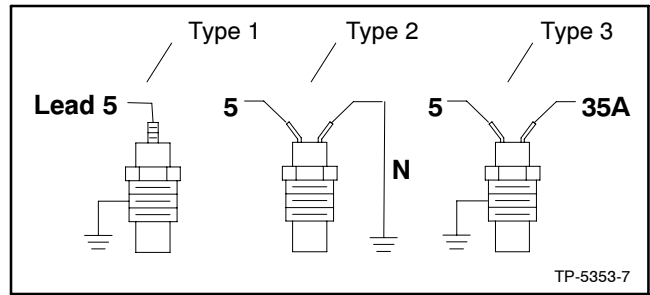

Figure 6-11 Water Temperature Sender, Typical
The water temperature sender has three configurations: (1) a single function, single-terminal type, (2) a single function, two-terminal type, and (3) a dual function, two-terminal type with temperature gauge sender and low coolant temperature switch. See Figure 6-11.